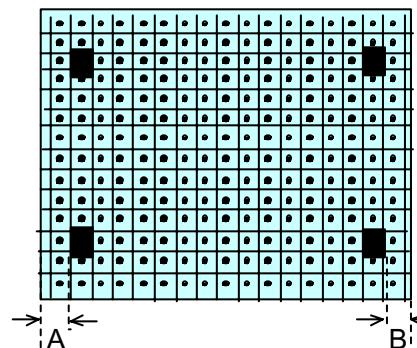

Fig.1-9 PAL CONVERGENCE
2. Adjust and equalize the distances indicated with A (the left end to ■ mark) and B (the right end to ■ mark). (Fig. 1-9)